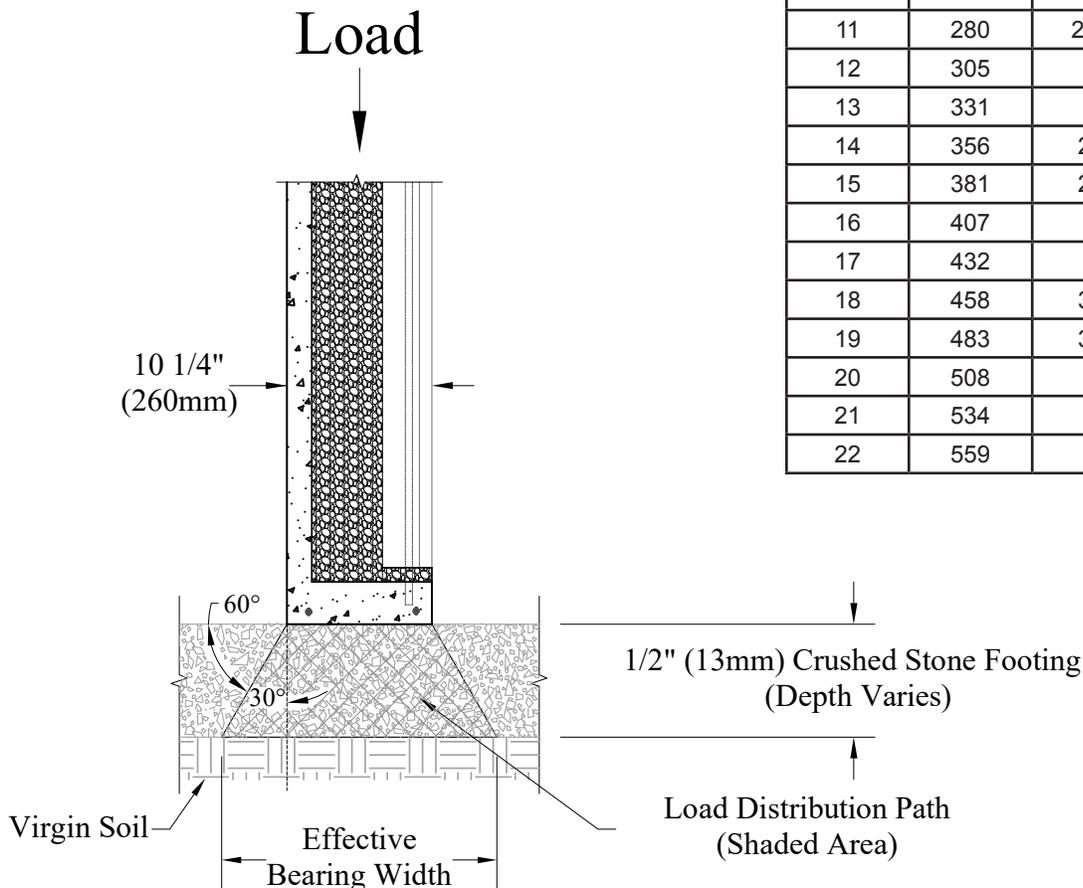

Figure 1
4. As the depth of the crushed stone layer increases, the effective bearing width on the underlying soil also increases. (See Figure 1.)